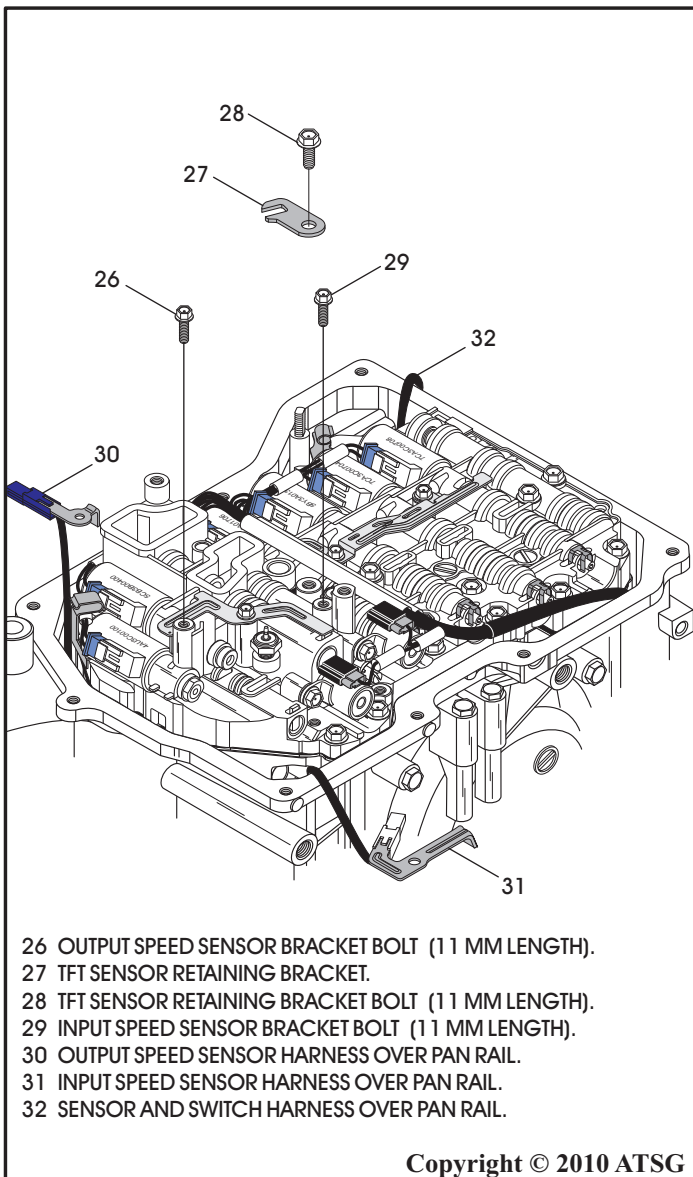

Figure 57
14. Remove the bolts retaining the blue connector output speed sensor bracket and white connector input speed sensor brackets (See Figure 57).
15. Remove the bolt retaining the TFT sensor and the retaining bracket, as shown in Figure 57.
16. Remove the connectors from both speed sensors, both pressure switches (if used), as shown in Figure 57.
17. Lay the sensor and switch harness from 8 way connector over the pan rail (See Figure 57).
18. Lay the output speed sensor harness over the pan rail, as shown in Figure 57.
19. Lay the input speed sensor harness over the pan rail, as shown in Figure 57.